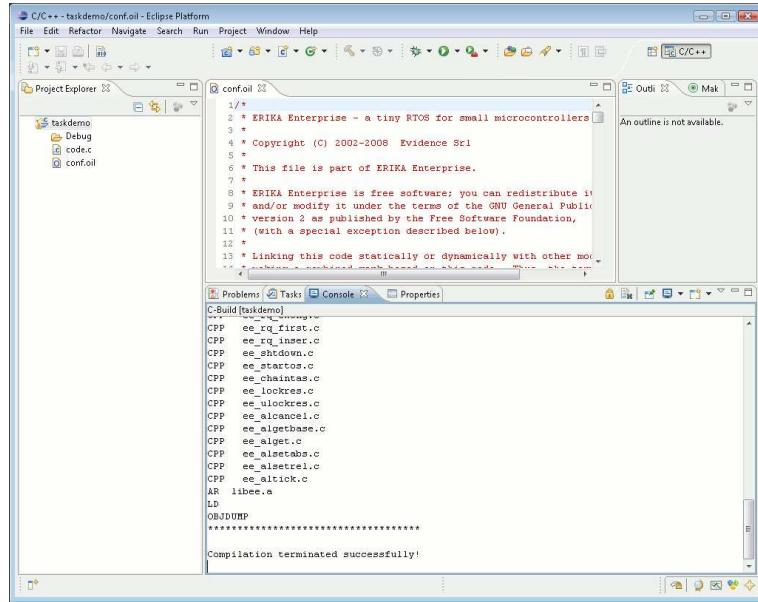

Figure 5.5: The compilation process.
6. Then, the compilation process starts as depicted in Figure 5.5. Please note the message that appears when the compilation is successfull.